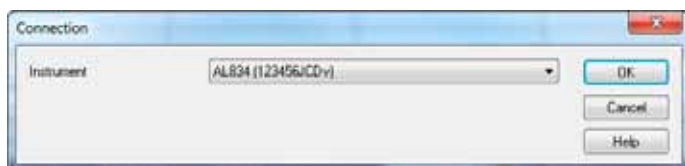

Figure 4-4
- The **Connection** window will appear (see Figure 4-4).